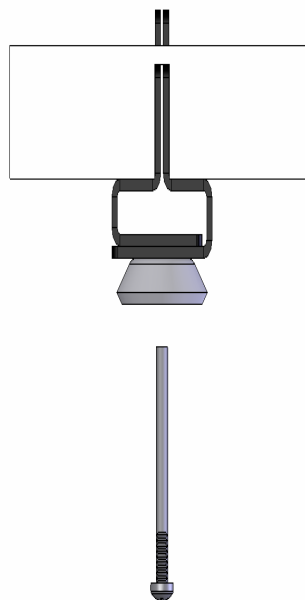

Figure 4
- Secure the mounting bracket to the mounting furniture slot using the longer 10-24 pan head screw (see Figure 4), making sure the longer screw protrudes into the mounting slot to lock the unit in place.